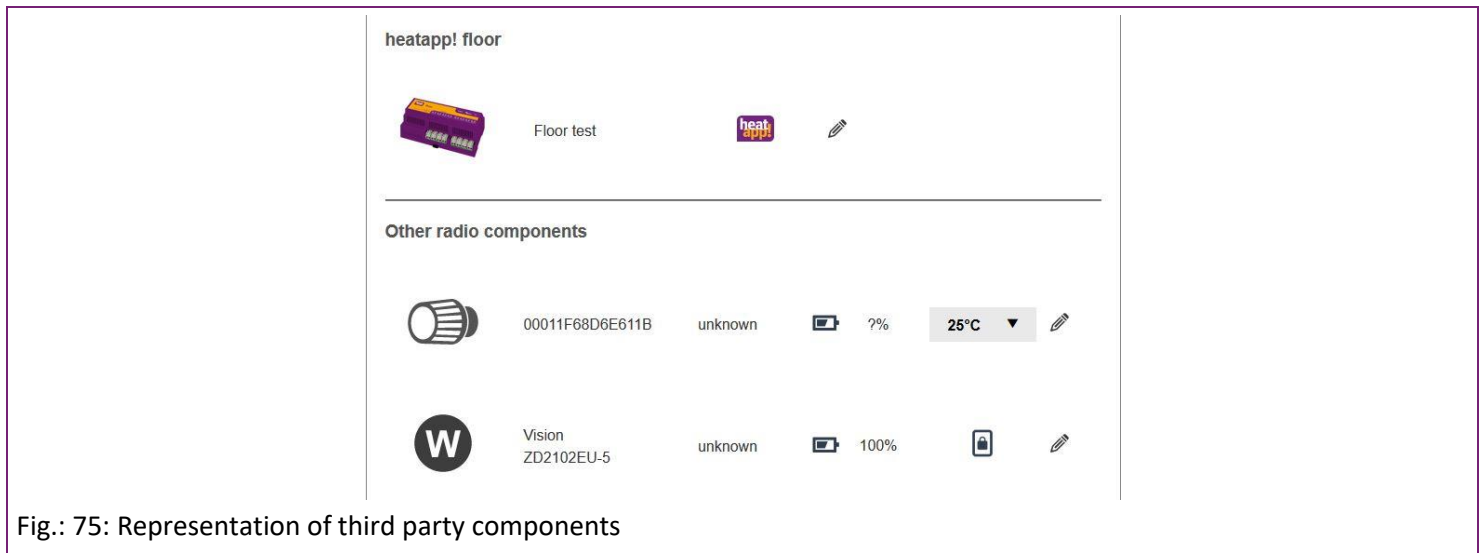

Fig.: 75: Representation of third party components
6. In Fig.: 75, it is apparent that another manufacturer's actuator and room sensor have been registered. The actuator makes it possible to set the desired room temperature via the drop-down field.